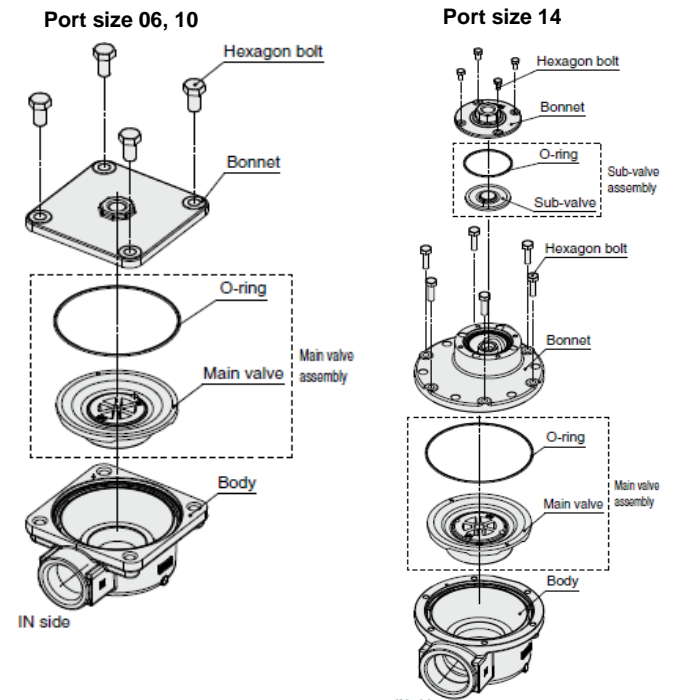

Fig.2
- Loosen the hexagon bolts and remove the bonnet, O-ring and main valve (sub-valve). See Fig.2.
- Assemble the bonnet onto the body (refer to Fig.2).